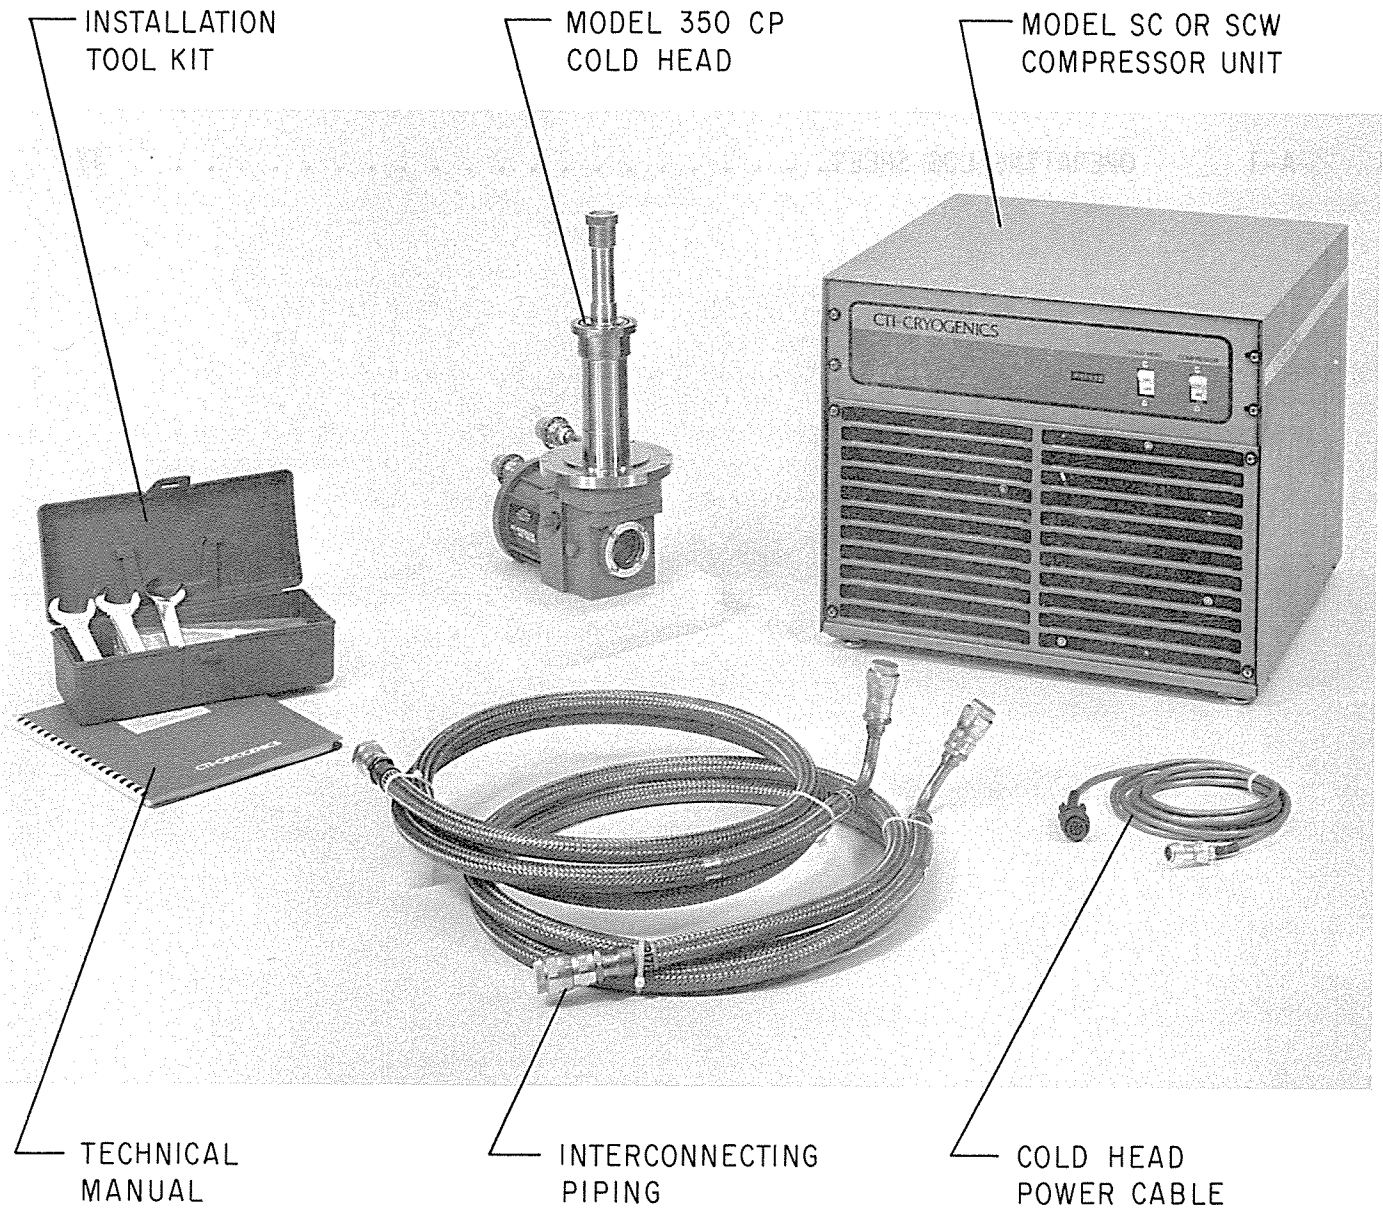

FIGURE 1-1. THE MODEL 350C CRYODYNE^(R) CRYOCOOLER
The Model 350C CRYODYNE(R) Cryocooler provides reliable refrigeration at cryogenic temperatures for long, continuous periods. This cryocooler (see Figure 1-1) consists of the Model 350CP Cold Head, the Model SC or SCW Compressor Unit, interconnecting piping, and an installation tool kit.
As shown in Figure 1-1, your Model 350C CRYODYNE(R) Cryocooler consists of a Model 350CP Cold Head, a Model SC or SCW Compressor Unit, interconnecting piping, a cold-head power cable, and an installation tool kit.
2.1.2 Interconnecting Piping and Wiring (See Figure 1-1)